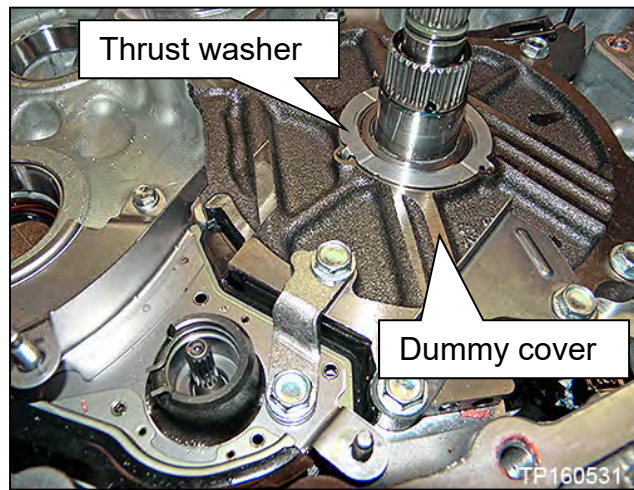

Figure 42
24. Remove the pump cover (dummy cover) thrust washer (Figure 42).